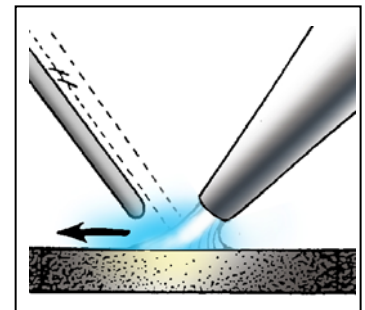

Figure 3
11. Once the rod starts to melt, move it into and out of the flame as needed to form a bead. Refer to Figure 3.